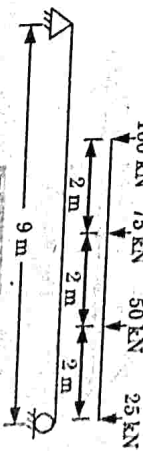

Fig. 4.20.1.
**Que 4.20.** A train of wheel loads, shown in Fig. 4.20.1 moves over a simply supported beam of 9 m span from left to right. Making use of the influence line diagram determine the value of maximum bending moment at a section 3 m from the left support.